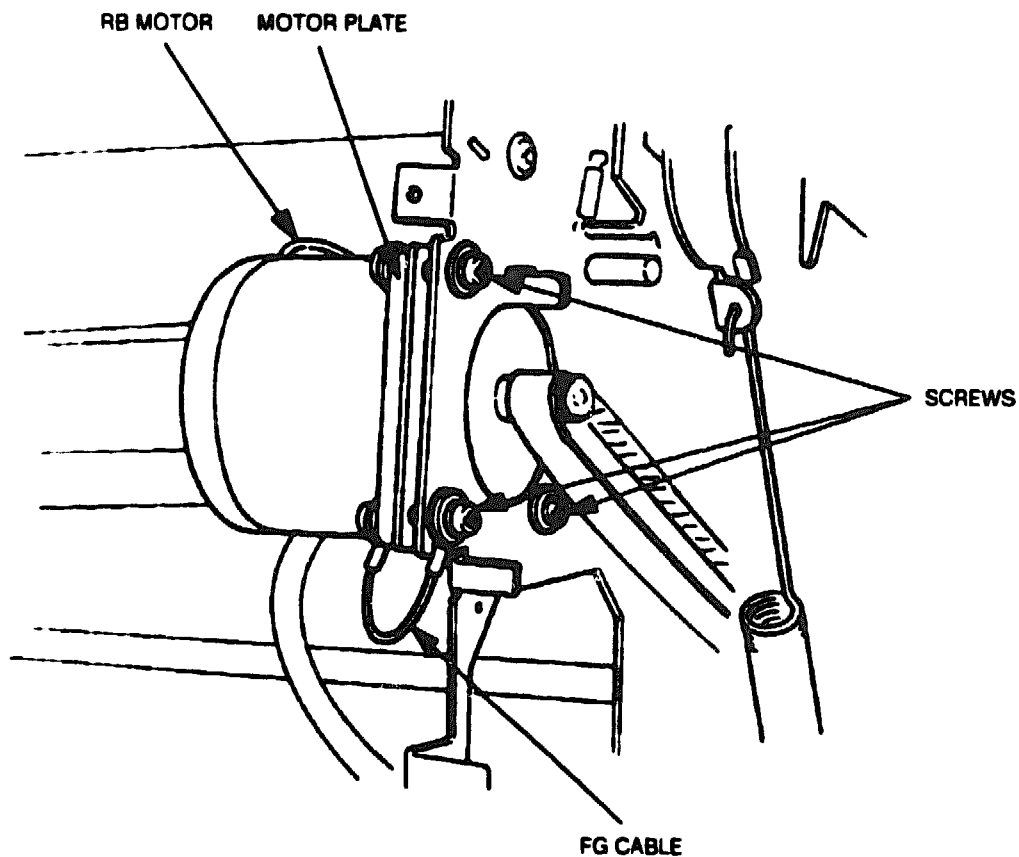

Figure 6-89 RB Motor Assembly Removal
6. Remove the three screws that secure the RB motor plate to the lower side plate (L) and lift the RB motor assembly away from the printer (see Figure 6-89).
When replacing the RB motor assembly, fasten the FG cable to the RB motor plate as shown in Figure 6-89 and adjust the tension of timing belt B328MXL9.5 (refer to Section 4).